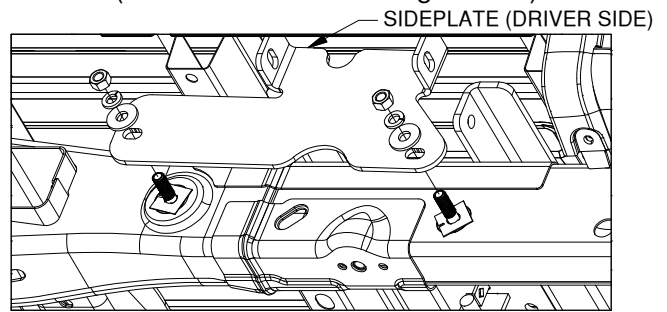

Figure C4: View of driver side wheel well.
3. **Install sideplates.** Each sideplate (driver and passenger side) will install over the carriage bolts previously placed into the frame. Slowly guide the sideplate over the carriage bolts and between the cross members. Attach each plate (driver side shown below) with two 1/2" washers, 1/2" lock washers and 1/2" finish nuts, see figure C4. Do not fully tighten at this time. (Bolts should be hand tightened.)